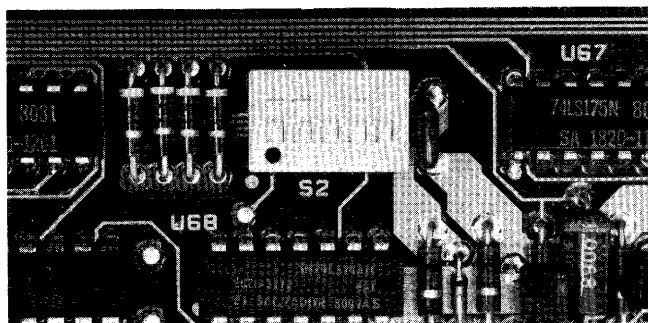

Figure 3-2. Blinking Switch S2 Location on Input/Output Board.
3-43. TTL Outputs 1, 2, and 3 can each be set to blink at a 4 Hz rate when unblanked by WX parameters 8 thru 15. Figure 3-2 shows the location of the Blinking Switch on the Input/Output Board. The switches are set (1) when they are away from the dot. Figure 3-2 shows all sections in the OFF (0) position. Table 3-5 lists possible blinking combinations for displays that are unblanked by WX 8-15. Blinking is not possible with WX 0-7.